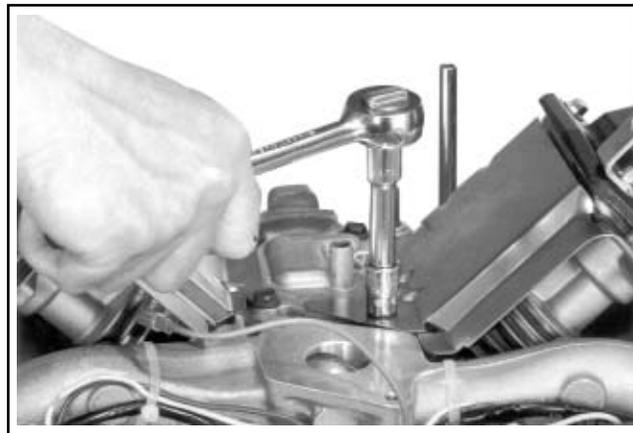

**Figure 9-33. Removing Blower Housing.**
8. Remove the remaining hex. flange screws and detach the blower housing. See Figure 9-33.